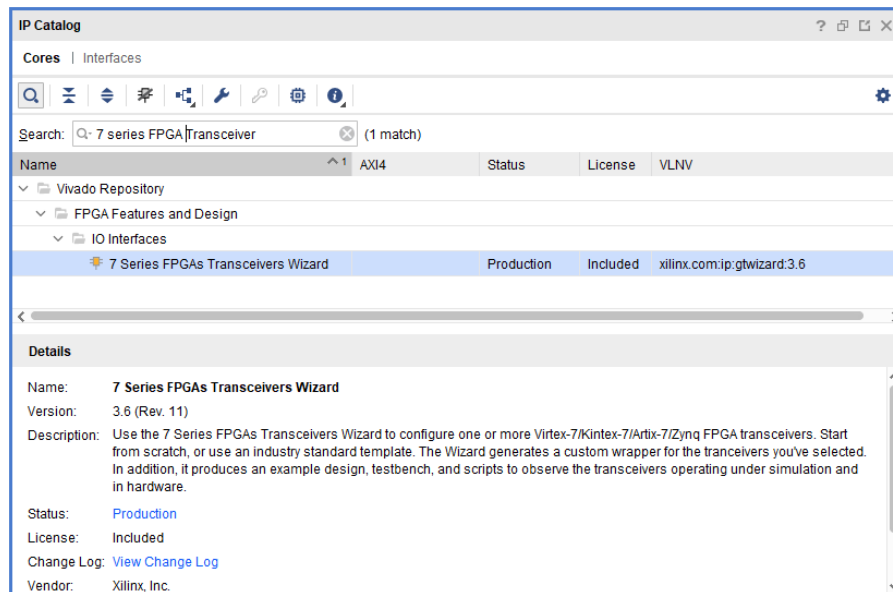

Figure 11: GTX Transceiver Configuration step 1
- Go to the Flow navigator → Project Manager → IP Catalog. In IP catalog, add the required 7 series FPGA Transceiver wizard as shown in below Figure 11.